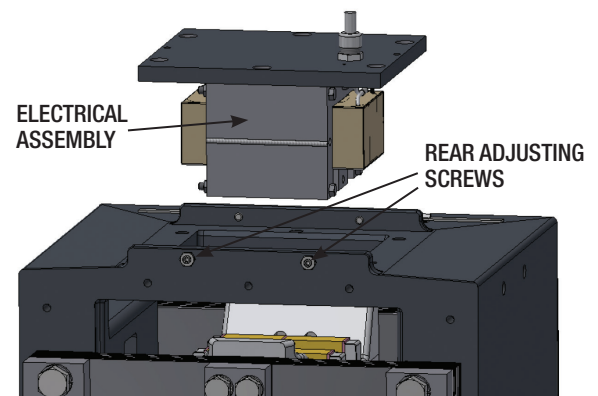

Figure 9 - Electrical Assembly Removal
3. Pry and lift the electrical assembly from the body casting, using a sling or some other safe method of lifting. (*See Figure 9*).